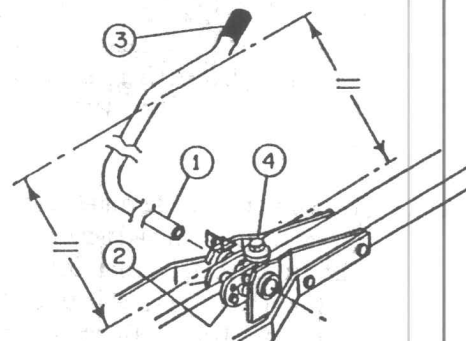

FIGURE 6
b) Remove tie wrap from lift lever assembly and insert lift arm (fig. 6, item 1) from right hand side through lift support bearing, sleeve spacer, lever assembly (item 2), sleeve spacer, lift support bearing until it protrudes 2 1/4" from left hand bearing.
d) Install 1 X 4 1/2" handle grip (fig. 6, item 3) on lift arm (item 1).
e) Set handle section (fig. 6, item 3) of lift arm parallel to level ground and block in this position. Set lift lever (item 2) parallel to handle section (item 3) of lift arm and tighten 5/8" bolt (item 4) approximately to 50 lbs ft.
- l) Install rotation support bracket (fig. 11, item 1) on left hand side of subframe using a 3/8 X 1" (item 2) in most forward hole and a 3/8 X 1 1/4" bolt (fig. 6, item 3) in other hole with belt wide inside subframe flatbar, making sure the belt guide is 90° to subframe flatbar. Secure bolts with nuts. Insert plastic grommet (item 9) in support bracket (item 1).
The lift lever for raising and lowering the snowblower is located on tractor right hand fender. To raise the snowblower, pull back on the lift lever handle (fig. 6, item 3). To lower the snowblower, push forward on the lift lever handle.